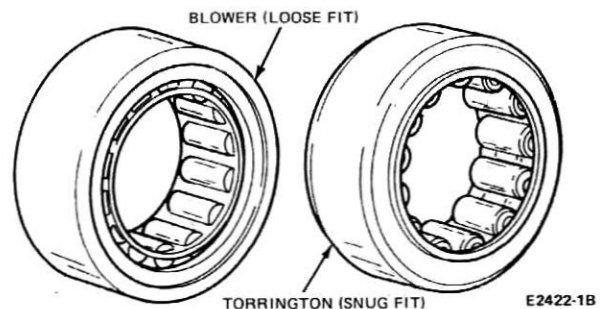

FIG. 5 Bearing Assemblies
10. Two types of bearings are used (Fig. 5). One requires a snug press fit in the housing flanges. The other has a ground race, and a loose fit is acceptable. Therefore when removing these bearings if a loose-fitting bearing is encountered it does not indicate excess wear or damage.